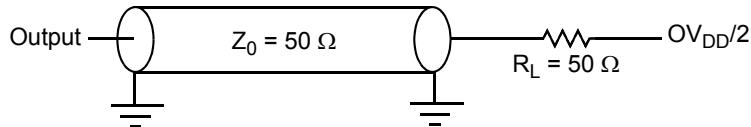

Figure 32. AC Test Load for the JTAG Interface
1. All outputs are measured from the midpoint voltage of the falling/rising edge of t_{TCLK} to the midpoint of the signal in question. The output timings are measured at the pins. All output timings assume a purely resistive 50-Ω load (see Figure 32). Time-of-flight delays must be added for trace lengths, vias, and connectors in the system.
2. The symbols used for timing specifications follow the pattern of $t_{\text{(first two letters of functional block)(signal)(state)(reference)(state)}}$ for inputs and $t_{\text{(first two letters of functional block)(reference)(state)(signal)(state)}}$ for outputs. For example, $t_{\text{JTDV KH}}$ symbolizes JTAG device timing (JT) with respect to the time data input signals (D) reaching the valid state (V) relative to the $t_{\text{JT G}}$ clock reference (K) going to the high (H) state or setup time. Also, $t_{\text{JTD X KH}}$ symbolizes JTAG timing (JT) with respect to the time data input signals (D) went invalid (X) relative to the $t_{\text{JT G}}$ clock reference (K) going to the high (H) state. Note that, in general, the clock reference symbol representation is based on three letters representing the clock of a particular functional. For rise and fall times, the latter convention is used with the appropriate letter: R (rise) or F (fall).